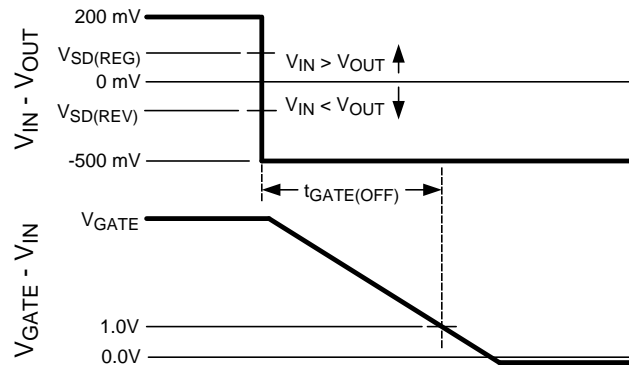

Figure 4. Gate Off Timing for Forward to Reverse Transition
(1) Measurement of V_{GS} voltage (i.e. $V_{GATE} - V_{IN}$) includes $1\text{ M}\Omega$ in parallel with C_{GATE} .
(2) Time from $V_{IN} - V_{OUT}$ voltage transition from 200 mV to -500 mV until GATE pin voltage falls to $V_{IN} + 1\text{V}$. See Figure 4.